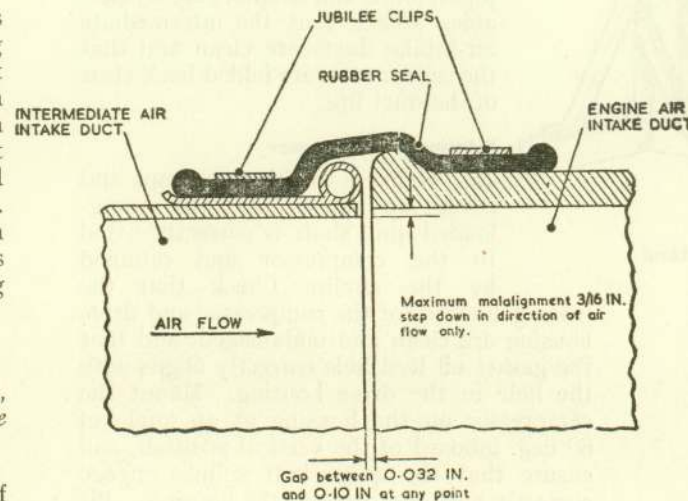

Fig. 14. Alignment of air-intake ducts
- (4) Check the alignment and clearance of the air-intake ducts (fig. 14).
- (5) Assemble the rubber seals and secure the large Jubilee clips.
- (6) Remove the blanking cover from the starter mounting face on the engine, and mount the turbo starter as instructed in A.P. 4320A & C, Vol. 1.
- (7) Remove the blanking covers from the starter exhaust and emergency outlet flanges, and assemble the exhaust duct with the Heldite gaskets.
- (8) At rib No. 1 on the starboard main plane, secure the mounting bracket for the jet pipe temperature gauge lead terminal block. Remove the port and starboard engine guide plates, then replace the four top tie-rods.
- (9) Connect or couple up all the items, listed in the key, which link the power unit to the airframe at the break points indicated.
- (10) Reassemble the rear four upper cowling panel tie-rods and hinge brackets to rib No. 1 on each main plane.